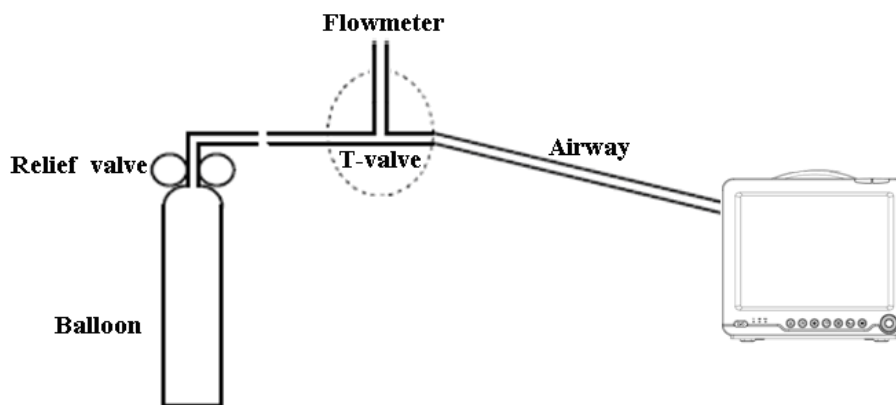

Figure 6.48 Calibration Diagram
5. Connect as shown in Figure 6.48 when zero calibration is successful.